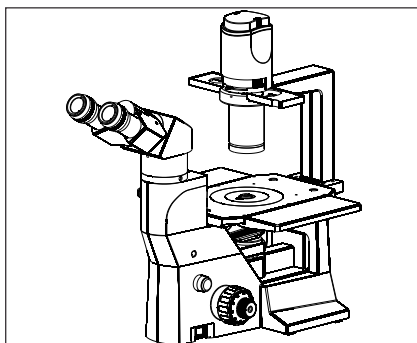

Fig. 1
2. To avoid potential electrical hazards when replacing halogen bulb, turn the microscopes main switch to the OFF position and disconnect power cord from wall outlet in advance. Whenever you replace your microscope bulb, allow lamp socket and bulb to cool before touching (Fig. 1)